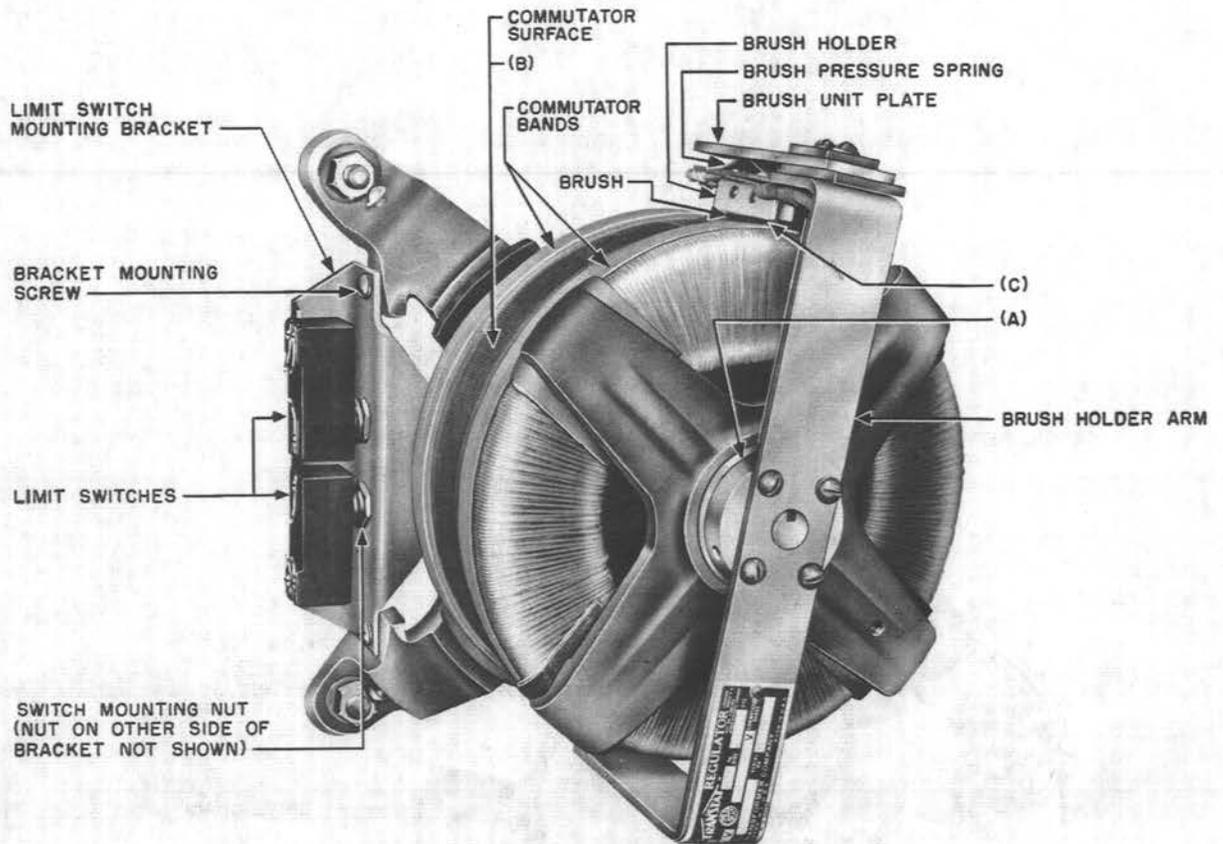
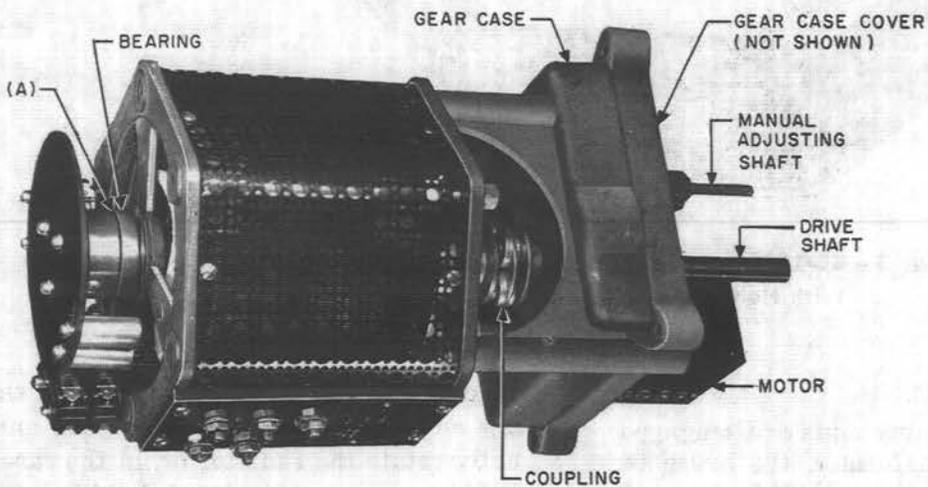
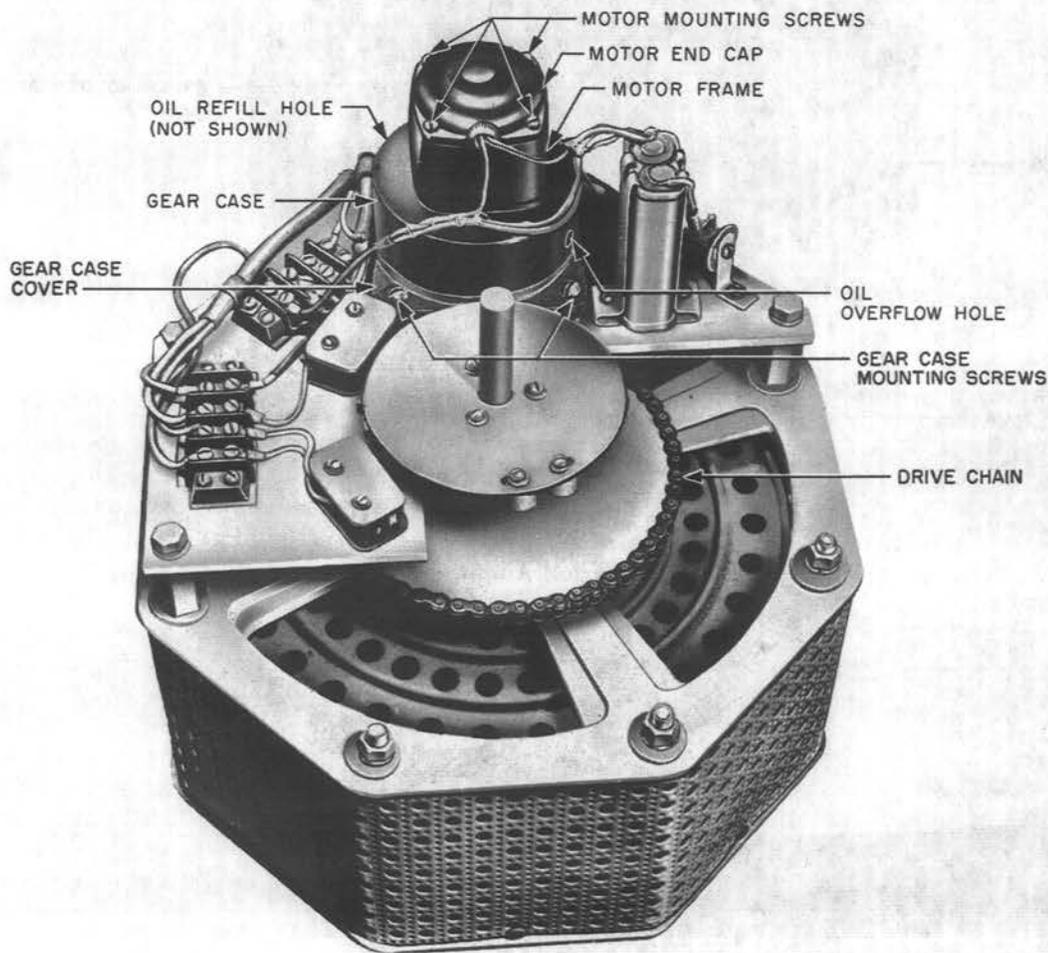
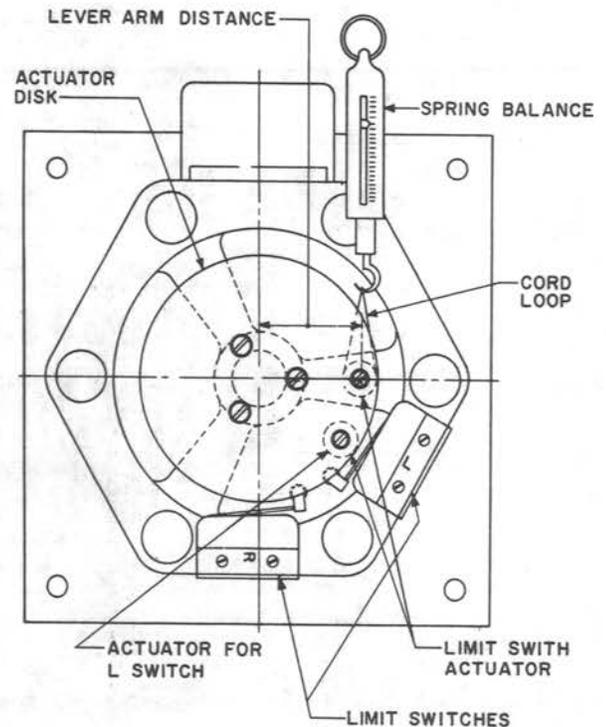

Fig. 1 - KS-5552 (transtat) Autotransformer
Fig. 2 - KS-5775 Autotransformer
Fig. 3 - KS-15583 and KS-15684 Autotransformers Equipped With Holtzer-Cabot Motor and Gear Case
Fig. 4 - Typical Powerstat Showing Method of Measuring Torque
(1) **Bearings of KS-5552, KS-5621, and KS-5775 Autotransformers:** Fig. 1(A), Fig. 2(A) — If the autotransformer squeaks during rotation, the bearings shall be lubricated sparingly with KS-6232 oil.
KS-5775, KS-15581, KS-15682, and KS-15683 Autotransformers (Fig. 2) and Vertically Mounted KS-15583 and KS-15684 Autotransformers (Fig. 3)
Horizontally Mounted KS-15583 and KS-15684 Autotransformers [see note of (c)] Fig. 3
Use the R-2771 spring balance or 79F push-pull tension gauge. To check the torque, disengage the driving mechanism as covered in 3.003. Referring to Fig. 4 for powerstats, loop a cord around one of the limit switch actuators and engage the hook of the spring balance or push-pull gauge in the loop. For the transtat (Fig. 1), loop the cord around the brush holder arm adjacent to the outer end. Referring to Fig. 4, pull the gauge at right angles to the radius through the center of rotation and observe the gauge reading just as movement starts. Determine the torque by multiplying the gauge reading by the lever arm distance, in inches, shown in Fig. 4. After the requirement is met, remount parts as covered in 3.004.
2.04 Condition of Commutator Surface: Fig. 1(B) and Fig. 5(B)
(b) *KS-5552 Transtat*: Fig. 1
KS-5552 Transtat and Autotransformer of KS-15908 L1 Regulator: Fig. 1 and 6